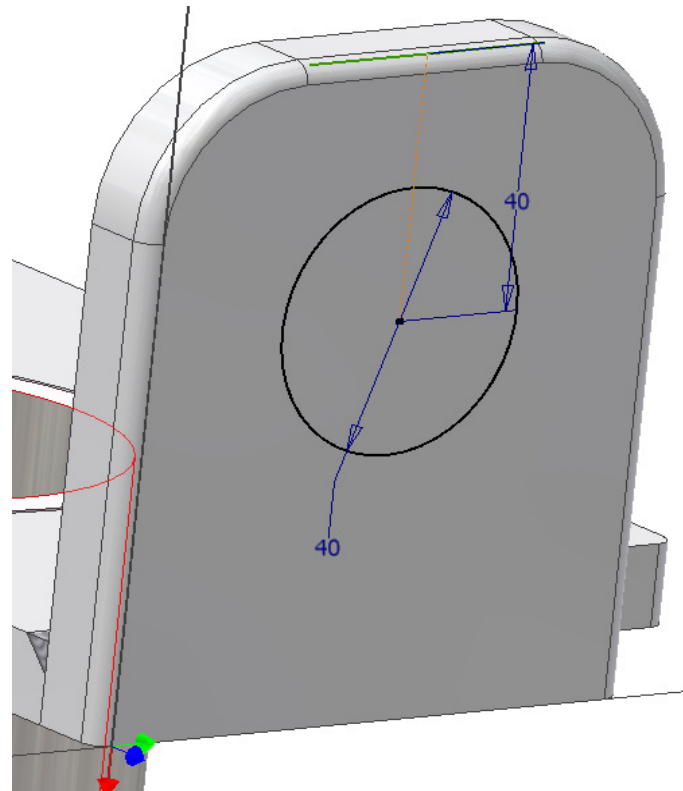

Figure Step 9
Step 9 Extrude the shape through the assembly. (Figure Step 9)
Step 9 On a new sketch draw and dimension a circle. (Figure Step 9)